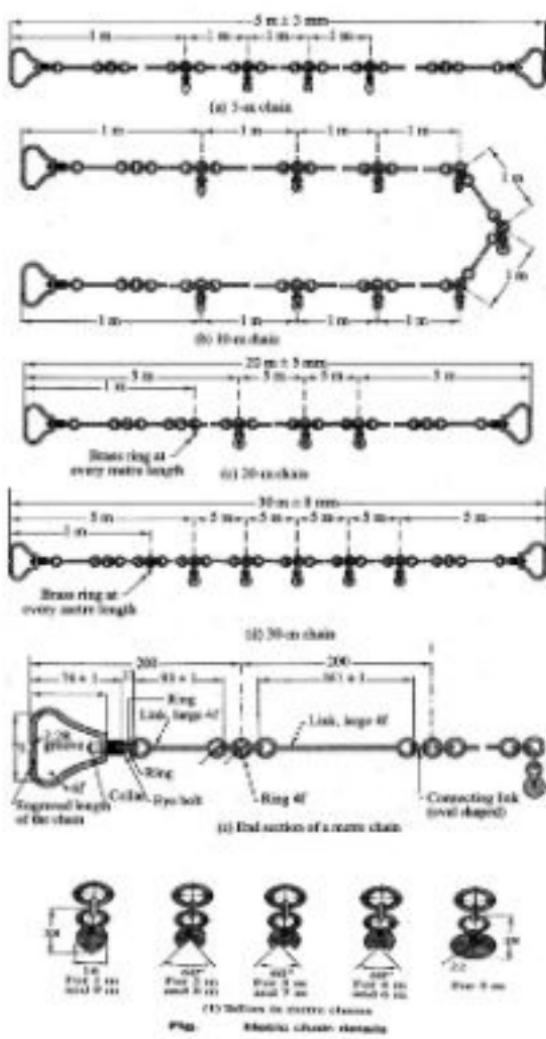

Fig. 2.1
**(3) Metric Chain:** A metric chain is prepared with 100 or 150 pieces/ links of galvanized mild steel wire of diameter 4mm. The ends of the pieces are bent to form loops and connected together by means of three oval shaped rings which gives flexibility to the chain. Two brass handles are provided at the two ends of the chain with swivel joints so that chain can be turned round without twisting. The outside of the handle is the zero point or the end point of the chain. The length of the chain is measured from the outside of one handle to the outside of the other. The length of a link is the distance between the centres of the two consecutive middle rings as shown in the Fig. 2.1. The end links include the length of handle. Tallies are provided for marking 5m, 10m, etc are marked with letter "m" to distinguish the metric chain from non-metric chain. The length of chain whether 20m or 30m is indicated on the handle for easy identification.